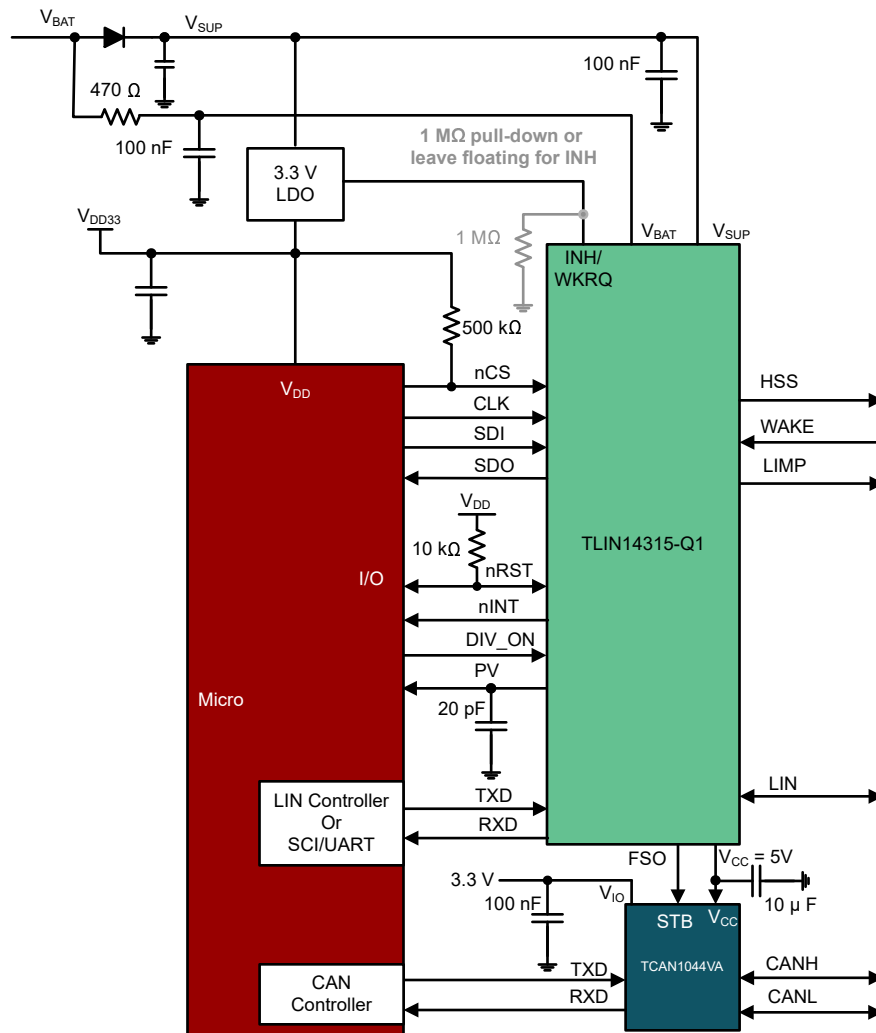

Figure 8-22. Channel Expansion: CAN Transceiver
- One LIN and one CAN FD transceiver by using a simple eight pin CAN FD transceiver (see Figure 8-22)